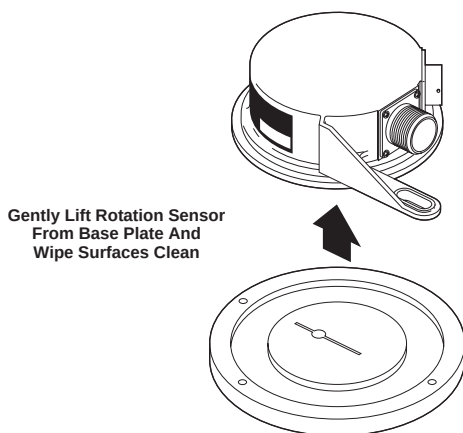

Figure 11-3. Carefully Remove Rotation Sensor
4. Carefully lift the Rotation Sensor from its base plate (Figure 11-3).